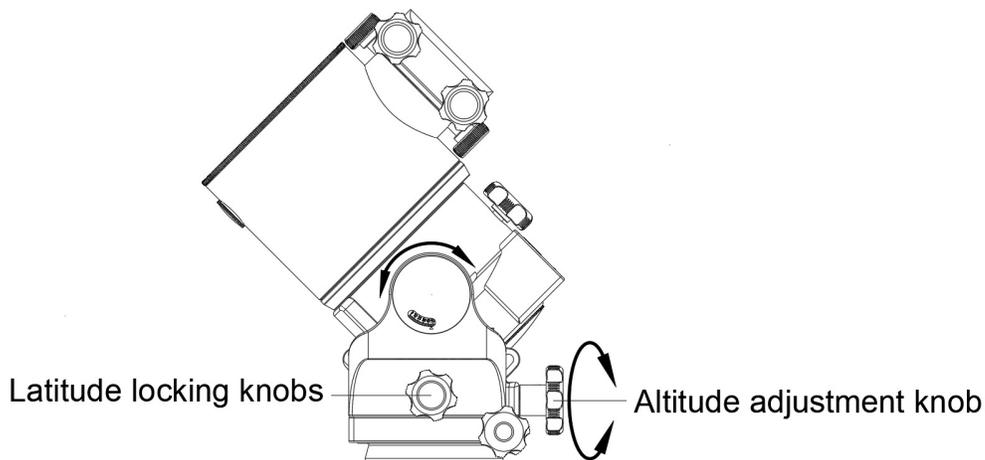

Fig. 2
1. For equatorial (**EQ**) mode, loosen slightly the two Latitude locking knobs and turn the Latitude adjustment knob until the arrow on the latitude scale of the mount matches the latitude of your observing site. Lock the two Latitude locking knobs. See Fig.2.